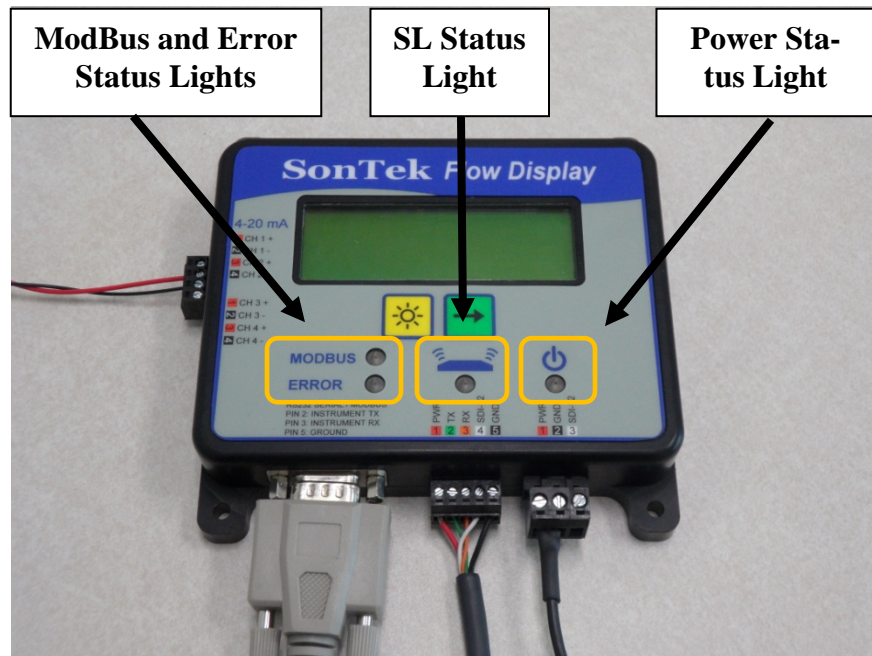

Figure D2. SonTek-SL Flow Display with analog outputs
- Figure D2 shows the connection of the SL to the Flow Display.
- It is important to note that there are two options for the Flow Display – a standard version and one with four channels of analog outputs (Figure D2).